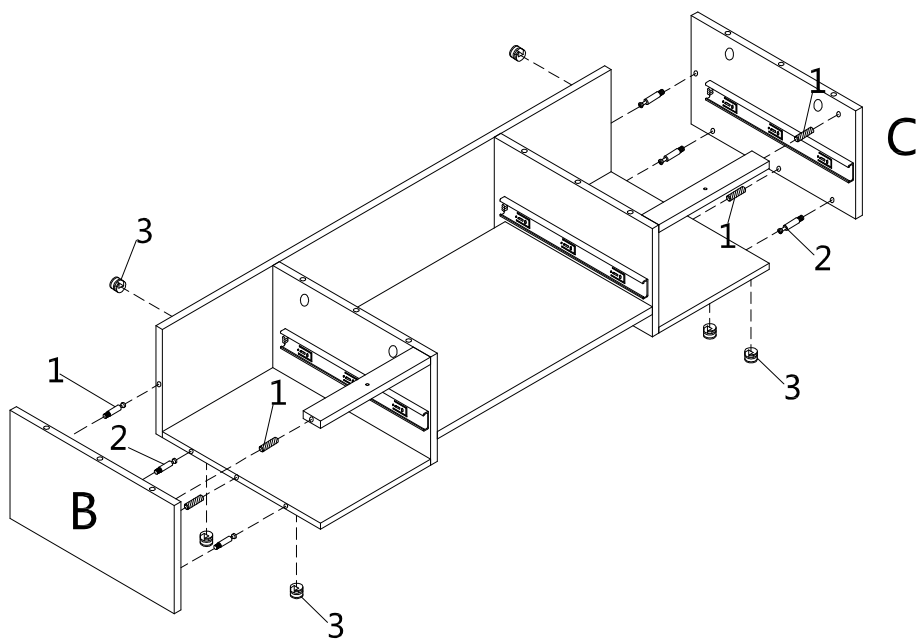

Figure 9
Insert Cam Lock (3) into predrilled holes on pre-assembled unit from figure 9.
Screw Cam Bolt (2) into pre-drilled holes on Top Panel (A). Attach Top Panel (A) to pre-assembled unit from figure 9 by inserting Wood Dowel (1) & Cam Bolt (2) into corresponding pre-drilled holes until panels meet.